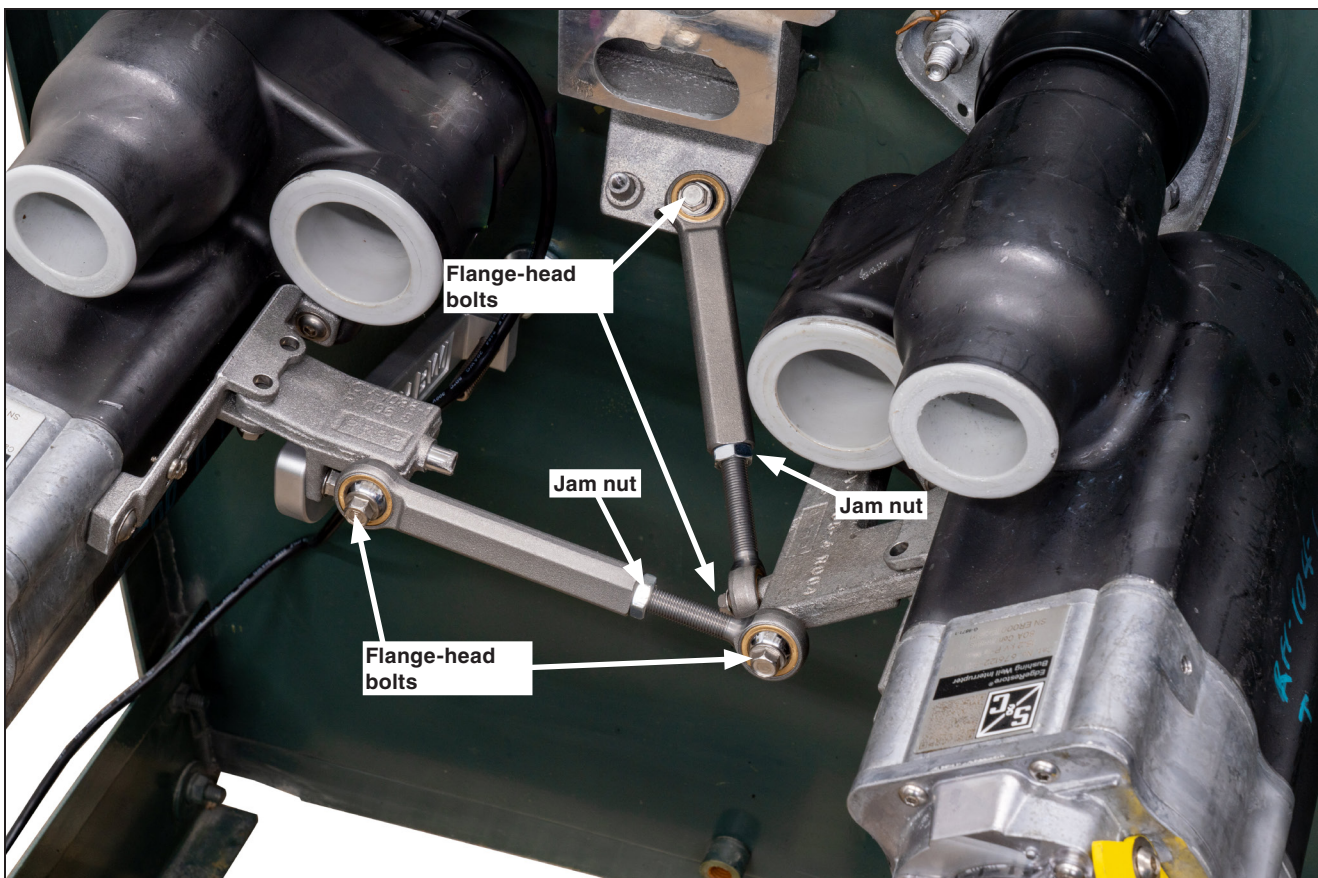

Figure 27. Tighten all bolts and jam nuts. Jam nuts shown properly tightened.
- STEP 5.** Tighten the two jam nuts, one on the adjustable link and one on the cross-brace link using the $\frac{9}{16}$ -inch combination wrench hand tight. See Figure 27.
- ❑ The three attaching the adjustable link to the bushing well interrupter and cross-brace link (See Figure 27 on page 20.)
- ❑ Make sure all jam nuts are tight against the non-adjustable portion of the adjustable links and cross-brace link. See Figure 27 on page 20.